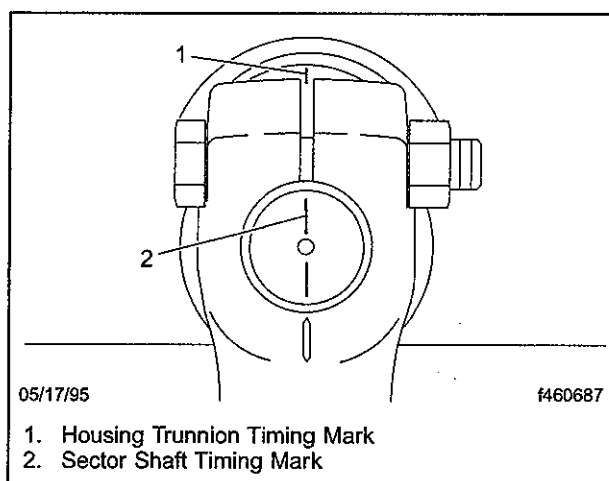

Fig. 6, Steering Gear Centered
28. Check that the steering gear is centered. The gear is centered when the timing mark on the sector shaft is aligned with the timing mark on the housing trunnion. See Fig. 6.